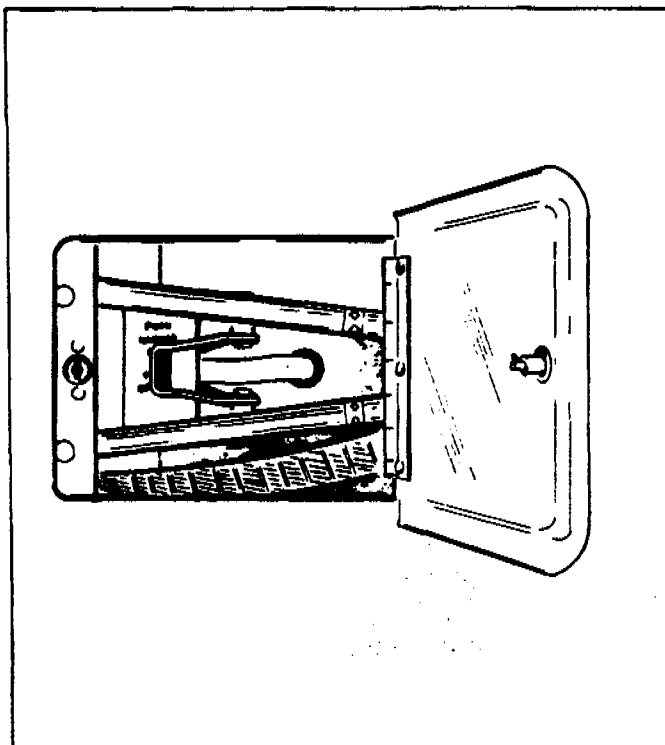
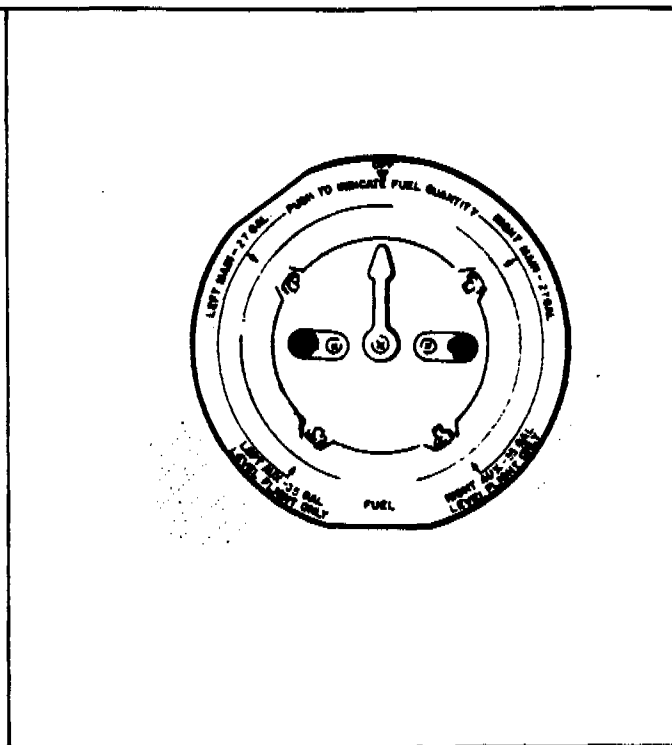

FIGURE 2-16. FUEL STRAINER AND DRAIN
FIGURE 2-17. FUEL SELECTOR AND DRAIN
a. On PA-24-180 and PA-24-250 aircraft bearing Serial Nos. 24-1 to 24-2298 inclusive, the fuel strainer, equipped with an easy drain valve is mounted under the right forward section of the fuselage. The fuel strainer drain (Figure 2-16) on PA-24-180 and PA-24-250 aircraft bearing Serial Nos. 24-2299 and up and PA-24-260 aircraft is located in the cabin floor just aft of the fuel selector valve and is drained by opening the access door and moving the easy drain valve handle to the aft position. Draining is accomplished within the cockpit. A transparent plastic tube is attached to the drain valve and extends through a hole in the bottom of the fuselage. Flow of the fuel is observed by means of the transparent tube and should cease as observed through tube when the handle is released. On the PA-24-400 (Figure 2-17), the fuel is drained from the cockpit by lifting up the red knob located in the center of the fuel selector. The fuel strainer should be drained regularly to check for water or dirt accumulations.